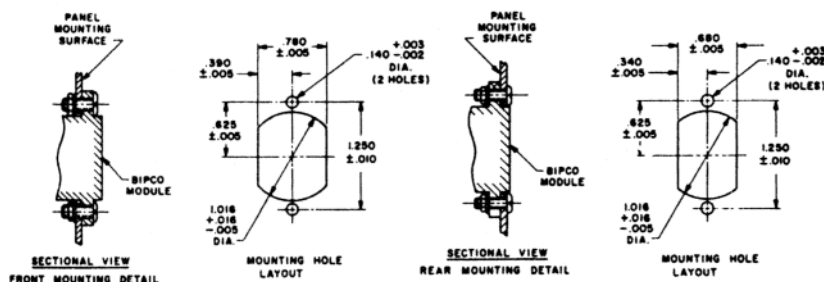

Figure 6. MOUNTING DIAGRAM (Note 12)
- Modules may be mounted either in front of, or behind the panel (Figure 6). Front mounting should be employed only when there is no back lighting. Rear mounting may be used whether or not back lighting is present.